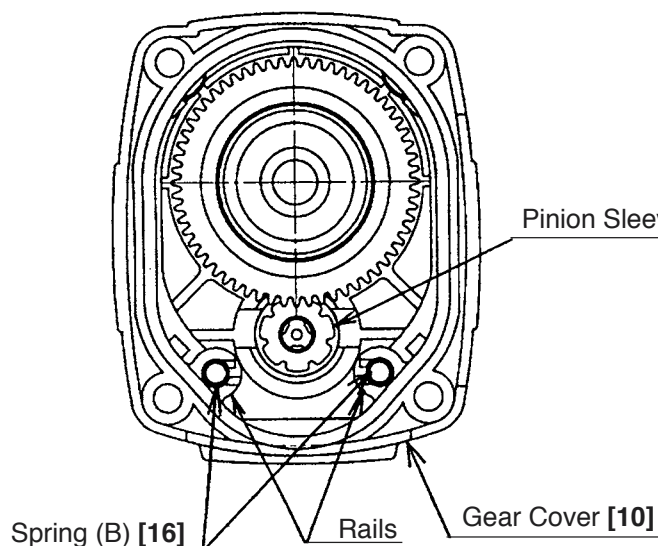

Fig. 13
(1) Disassembly of the striking mechanism section
- Push the Second Hammer **[29]** in the main body with a drill bit or screwdriver to release the Striker **[37]** from O-ring (C) **[34]**.
- Remove Springs (B) **[16]** from the rails in the Gear Cover **[10]** as shown in Fig. 13.